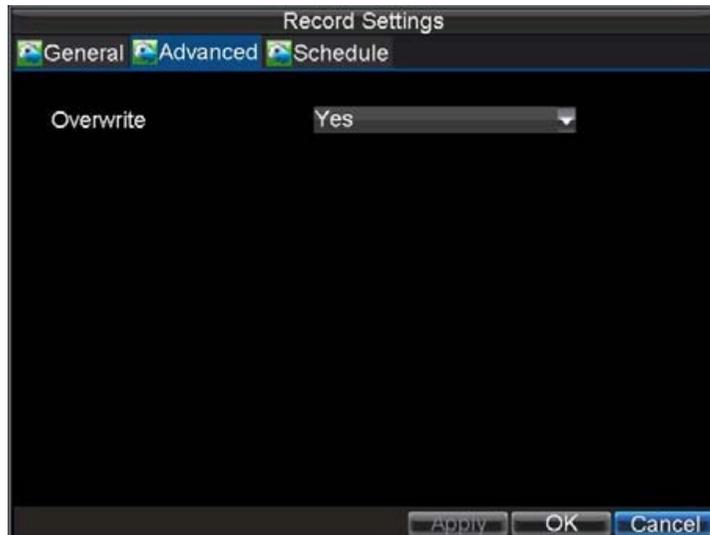

Figure 6.3.
- 5) Press the *3DEF/F2* button on DVR front panel to select the **Advanced** tab to access the Advanced Settings submenu, shown in Figure 6.3.